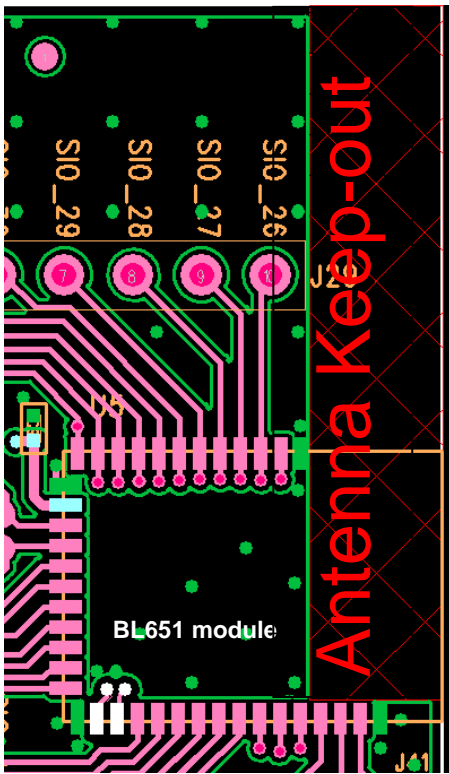

Figure 7: Antenna keep-out area (shown in red), corner of the BL651 development board for 453-00005 module.
- The BL651 development board (not commercially available) has the 453-00005 module on the edge of the board (preferably the edge center). The antenna keep-out area is defined by the BL651 development board which was used for module development and antenna performance evaluation is shown in Figure 7, where the antenna keep-out area is ~4.95mm wide, 25.65 mm long; with PCB dielectric (no copper) height 0.85 mm sitting under the 453-00005 PCB trace antenna.
- Host PCB land pattern and antenna keep-out for the BL651 applies when the 453-00005 is placed in the edge of the host PCB, preferably the edge center. Figure 7 shows an example.